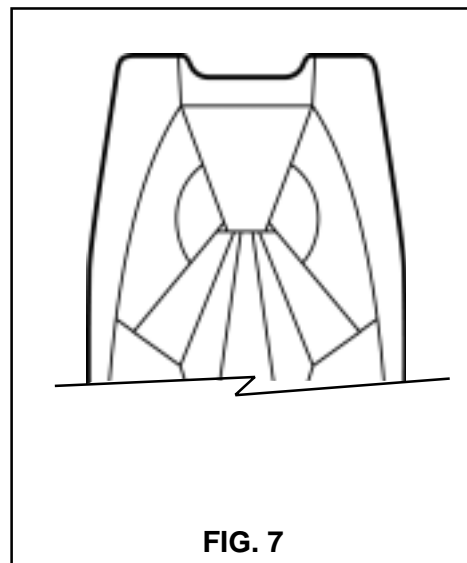

FIG. 7
5. Close riser covers over the main risers (**FIG. 7**).